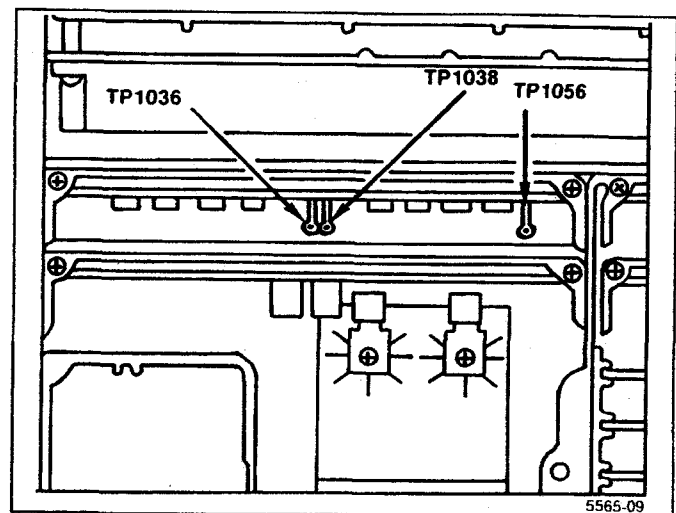

Figure 5-5. Test points on the CRT Readout board.
i. Disconnect the voltmeter, set TIME/DIV to AUTO, change the test oscilloscope to Ext Trigger, and apply the signal at TP1038 on the Crt Readout board (Figure 5-5) to the test oscilloscope Ext Trigger input. Set the test oscilloscope Time/Div to 2  $\mu$ s.